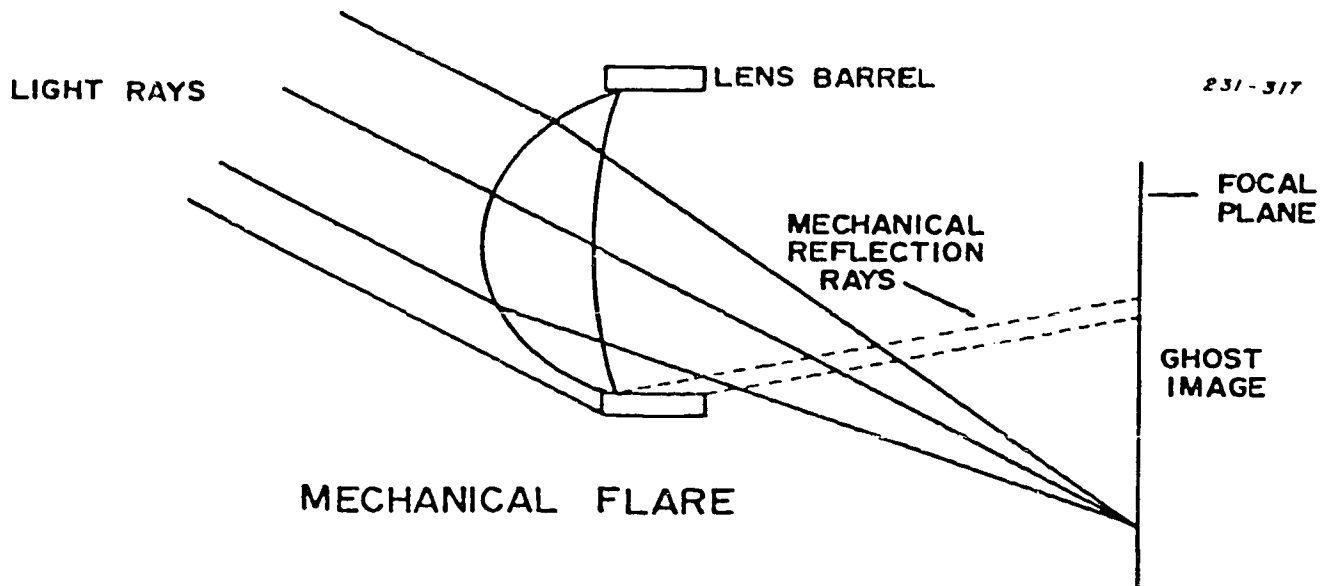

Figure 4-12. Mechanical flare.
**Mechanical Flare.** Mechanical flare is caused by reflections that occur because of reflective surfaces on the inner side of the lens barrel, the camera, or anywhere else near the lens. Normally, mechanical flare is not an inherent characteristic of the lens, but it is the result of a damaged or burnished surface. Instead of being absorbed, light coming from the subject strikes such surfaces and is reflected onto the film. This flare can be eliminated by coating damaged surfaces with a nonreflective coating (fig. 4-12).